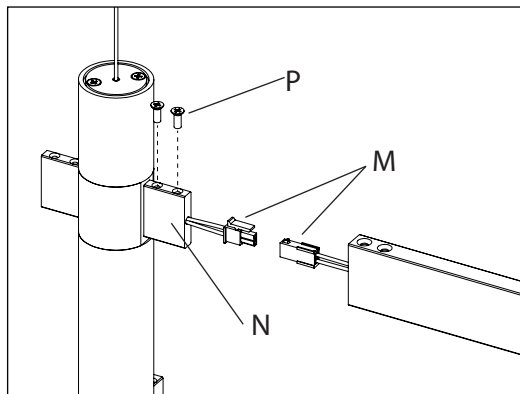
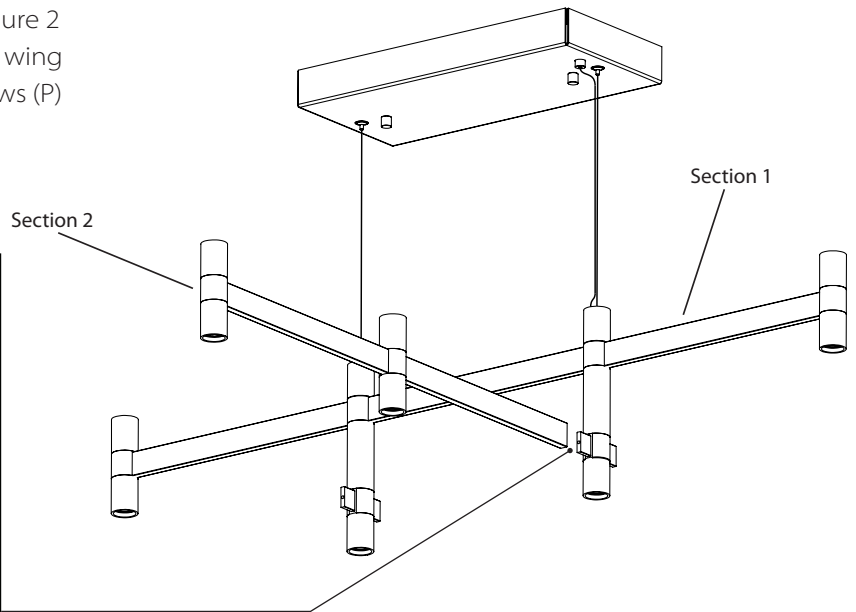

Figure 3
Figure 2
1. Shut off power to the outlet box (A).
2. Install the mounting plate (B) to the ceiling under outlet box (A) with included screws (C).
3. Install aircraft cable (D) from Section 1 to grippers (E) on mounting plate (B) (Figure 2). Make sure that the power feed is properly aligned with mounting plate and that cords and cable are fed through the canopy (F).
8. Install Section 2 to Section 1 as shown in Figure 2 by connecting the plug (M), sliding bar over wing (N), securing in place with countersunk screws (P) (Figure 3).
3. Slide the outer braided conductor back to create a bulge and reveal the inner stranded conductor (Fig. 2).
4. Bend the cord to create an opening through the bunched-up portion of outer braided conductor, then pull out the inner stranded conductor (Fig. 3)